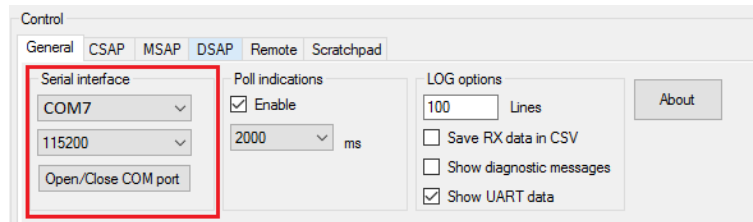

Figure 1: Open COM port
- b) Select the right COM port of the Thetis-I evaluation board and press the "Open/-Close COM port" button (see figure 1).